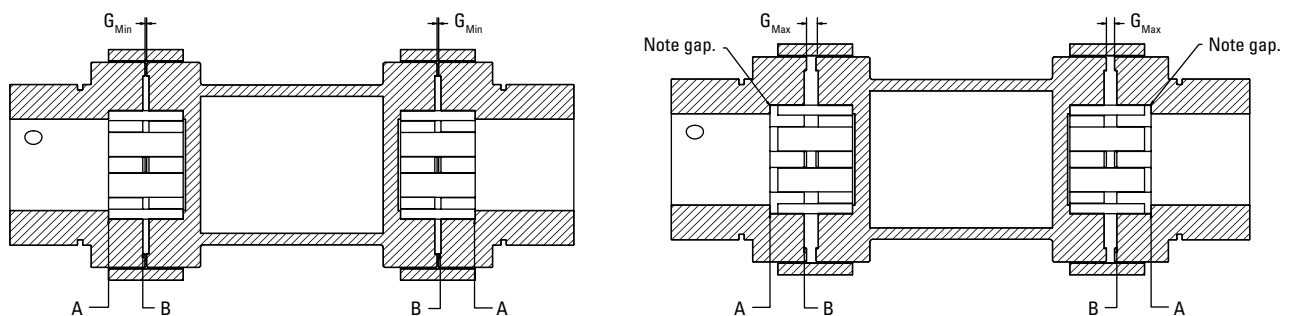

Fig. 10. Proper shaft-to-hub engagement.
4. Install the hubs. They should be mounted so the end of the shaft is flush with surface "A" as shown in fig. 10.
5. Install the spacer body and inserts. Slide all three components (spacer body and two inserts) tight to one side and check the gap from the insert face to hub flange face shown as surface "A" in fig. 10. This should not exceed $[(2 \times G_{Max}) - (2 \times G_{Min})]$ using the appropriate minimum hub gap (G_{Min}) and the maximum hub gap (G_{Max}) from table 20.
If this gap exceeds your calculation, adjust one or both hubs to set within specs, paying attention not to have the shaft end extend past surface "B" as shown in fig. 10.